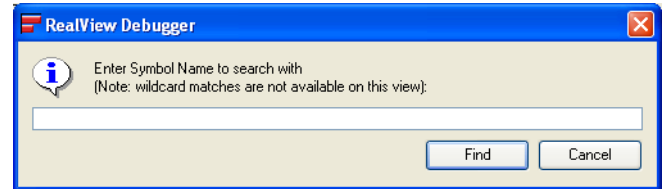

Figure 9-11 Finding a symbol name match
2. Select **Find Symbol Name...** from the **Find** menu to display the Prompt dialog box. Figure 9-11 shows an example: